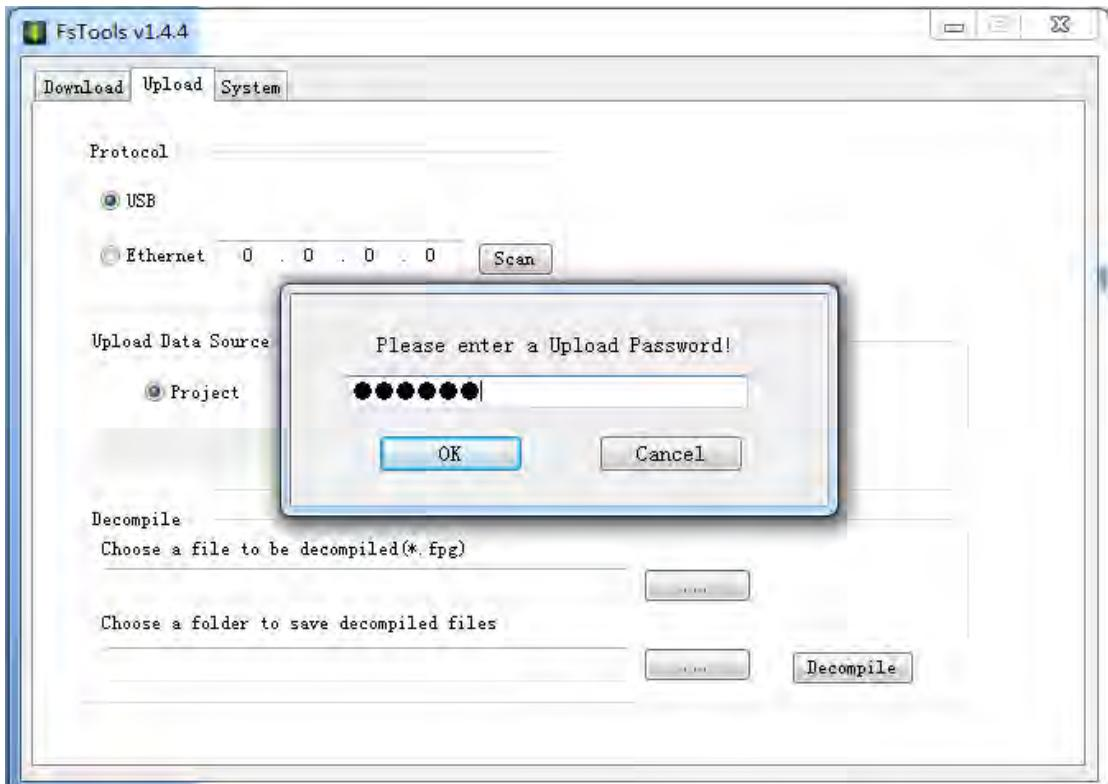
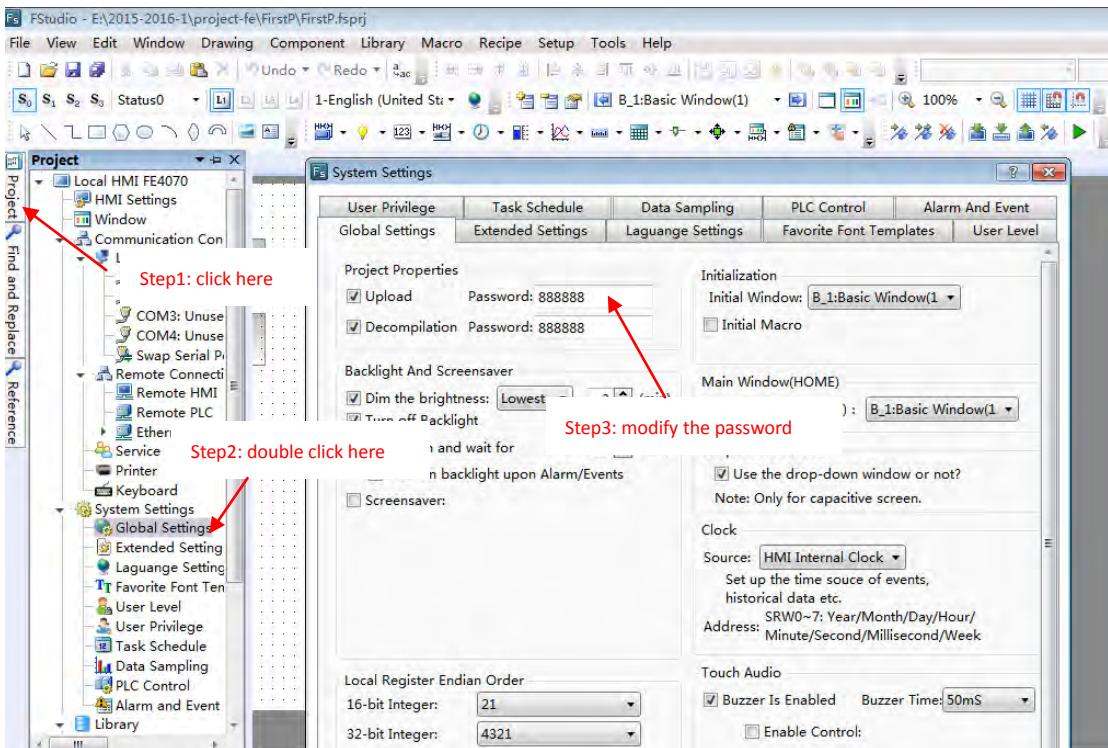

Fig. 21
Fig. 22
- ② Enter the password for uploading, as shown in Fig. 21. The default password is “888888” which can be modified in “Global Settings”, as shown in Fig. 22.